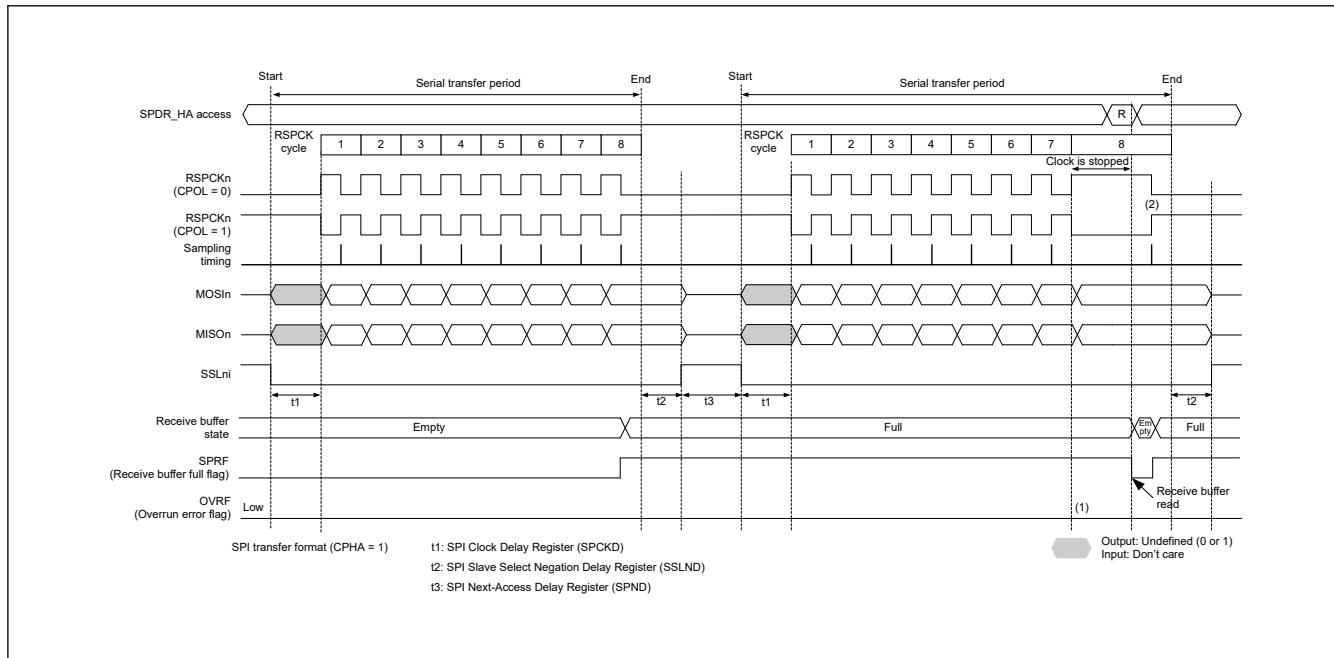
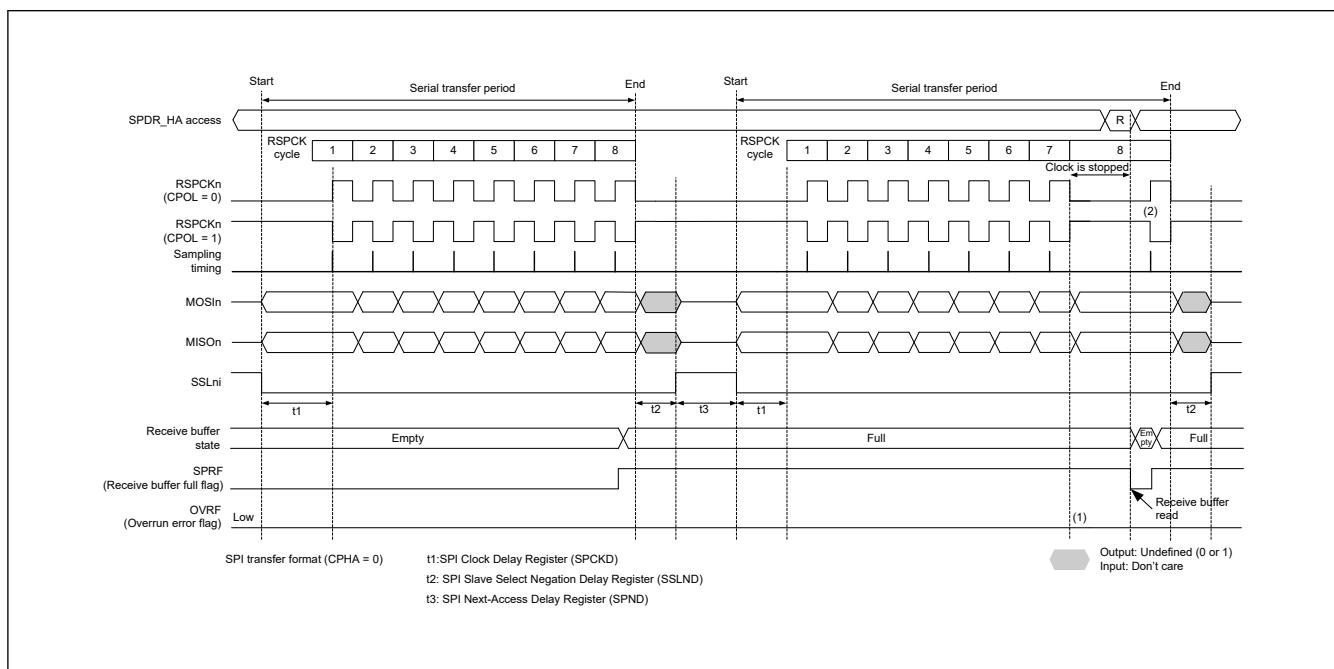

Figure 26.27 Clock stop waveform when serial transfer continues while receive buffer is full in master mode (CPHA = 1)
Figure 26.28 Clock stop waveform when serial transfer continues while receive buffer is full in master mode (CPHA = 0)
Figure 26.27 and Figure 26.28 show the clock stop waveform when a serial transfer continues while the receive buffer is full in master mode.
The operation of the flags at timings (1) and (2) in Figure 26.27 and Figure 26.28 is as follows: